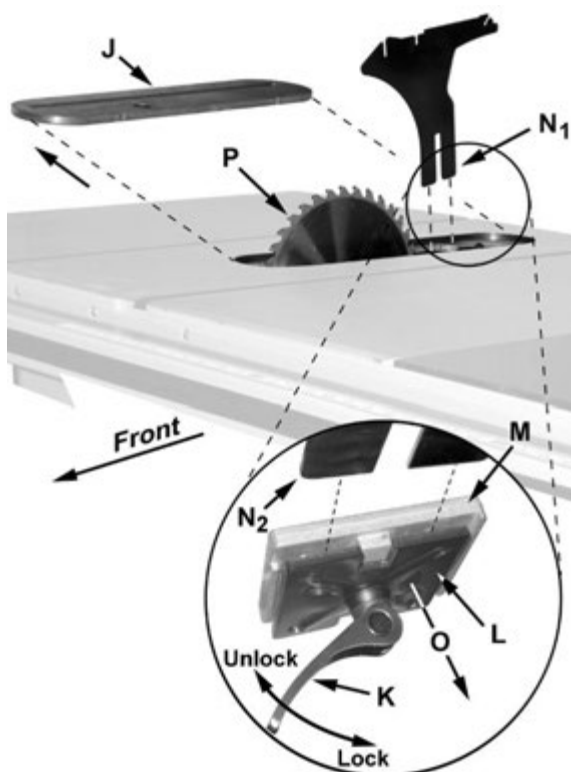

Figure 8
4. Rotate the arbor to line up the *slot* (C) with the *arbor lock* (D).
5. Press the *arbor lock* (D) in the direction shown by the arrow to engage it into the *slot* (C) in the *arbor*. At the same time remove the *arbor nut* (A), loosening with a 27mm wrench if necessary.
6. Remove the *collar* (B).
7. Install the blade, making sure the cutting teeth at the top of the blade point toward the front of the saw. If unsure, refer to Figure 8 for the proper blade orientation.
8. Replace the *collar* (B) and *arbor nut* (A).
9. Engage the *arbor lock* (D) and tighten the *nut* (A) with a 27mm wrench.
Referring to Figure 8:
3. Remove the table insert (J).
4. Located inside the table and accessible through the insert opening (Figure 8 inset), place the quick-release clamp lock handle (K) in the unlock position.
5. The floating clamp block (L) is spring loaded and will move away (O) from the fixed block (M), leaving a gap.
6. Insert the bottom of the riving knife (N1, N2) all the way into the gap between the *clamp blocks* (L, M); then lock the *handle* (K).
7. Replace the *insert* (J) back on the table. The saw blade and riving knife should protrude through the slot in the insert.
The clamping blocks (L, M, Fig. 8) are adjusted at the factory and no further adjustment of the blade guard and riving knife assembly should be necessary. However, **proper alignment is very important.** Before operating the table saw, read *Riving Knife Adjustment* (p.14) to verify and follow the adjustment procedure if necessary.